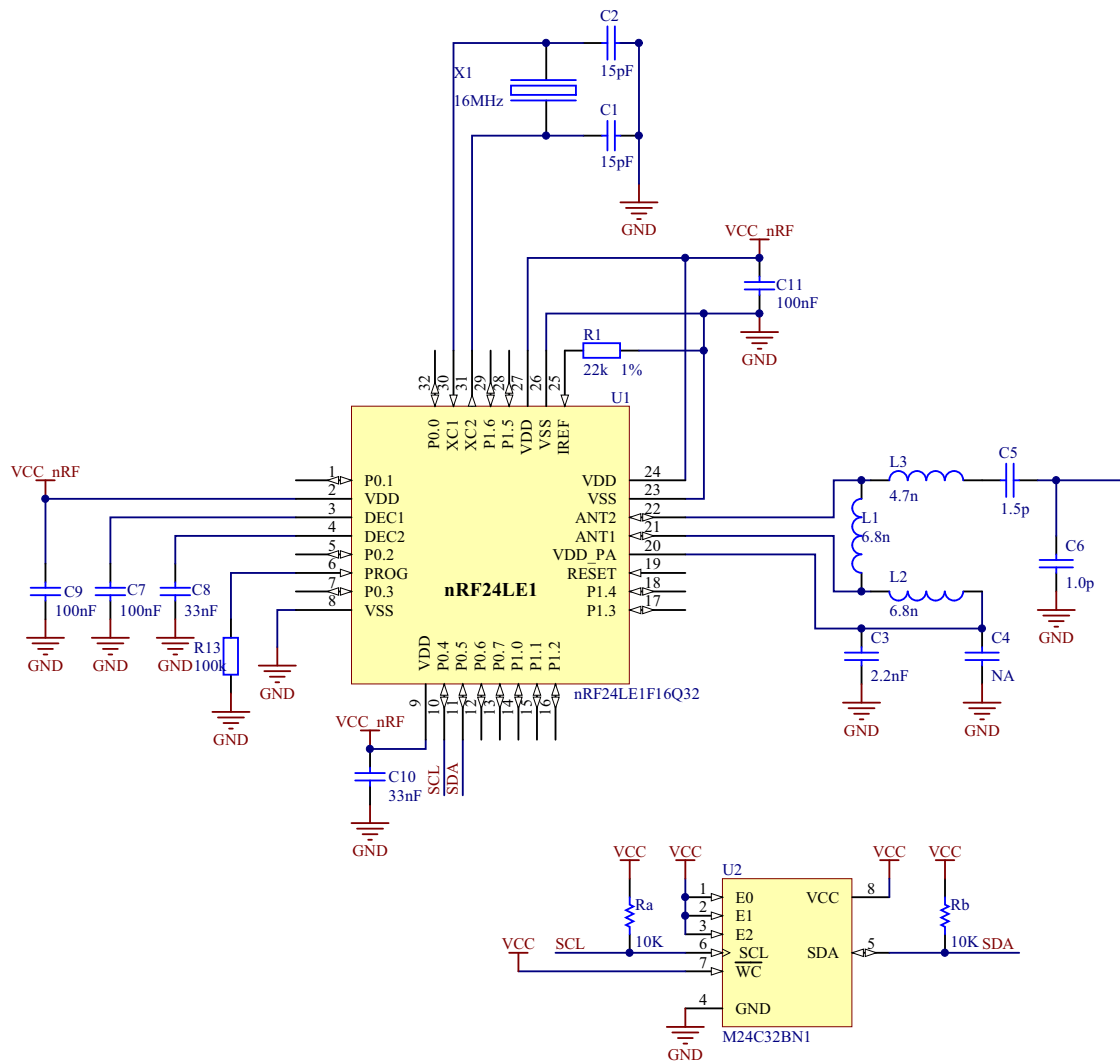

Figure 6. Schematic for nRF24LE1 with I²C EEPROM
Figure 6. on page 8 shows a connection between the nRF24LE1 32-pin and the M24C32. The WC signal is set high, disabling the write protect feature. By connecting the WL signal to GND, the EEPROM can be write-protected in hardware. By making the connection a solder point or switch, the hardware write-protection can be activated after a certain time (after the necessary data is written to the device).
- The I²C device is connected as shown in Figure 6. on page 8, and that the pull ups are in place.